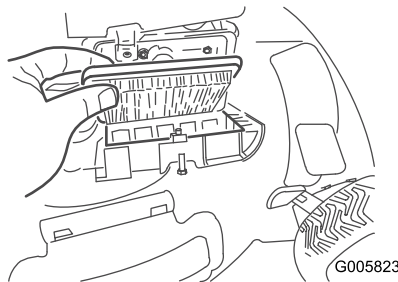

Figure 21
2. Replace the air filter (Figure 21).